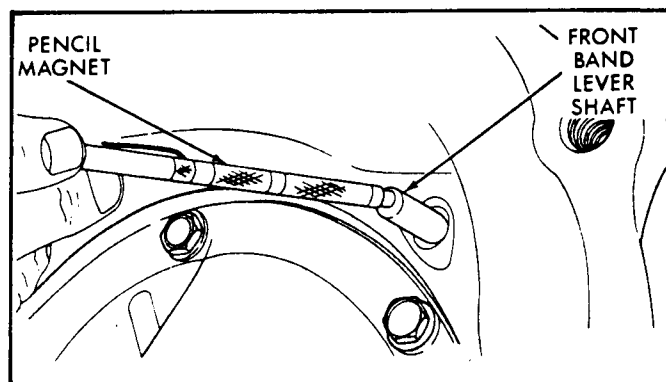

Figure 16
28. Remove front band lever shaft using a pencil magnet (See Figure 16).